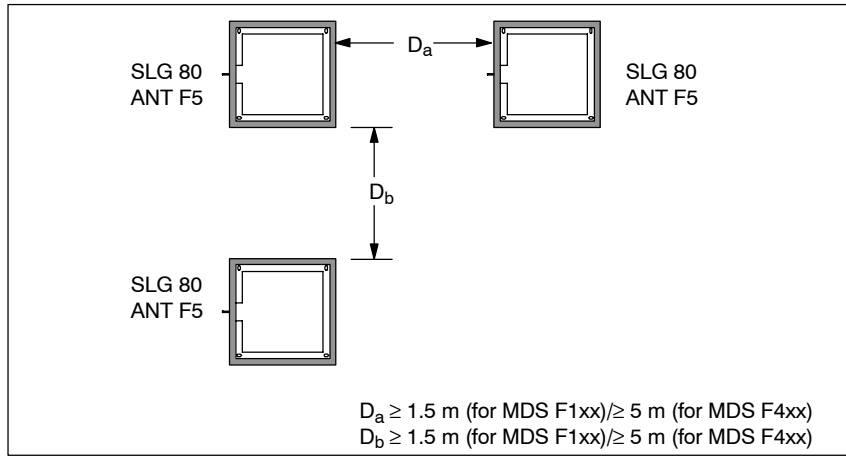

Figure 5-4 Distance D for SLG 80 ANT F5
Minimum distance from ANT F5 to ANT F5 (D)	See figure 5-4.